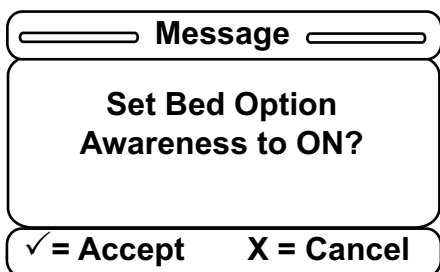

Figure 40 – Confirmation screen
16. After you select one of the items, a confirmation screen will be displayed. The confirmation screen text will vary based on the item that you selected. The confirmation screen indicates that you set the Awareness option to ON (Figure 40). Press **Enter** on the footboard panel to confirm your Awareness option or **Exit** to cancel the operation.